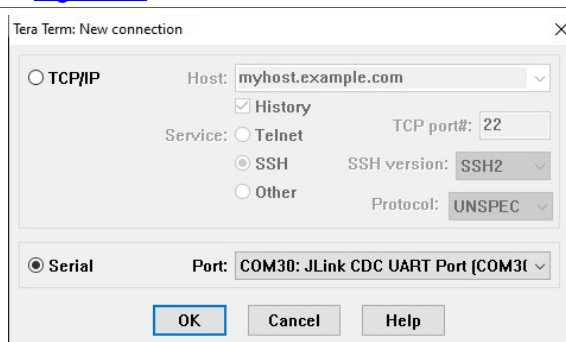

Figure 25. Setting up a new Tera Term connection for Wireless UART application
2. Open Tera Term (or any other Serial Communication software) and choose **Serial**. Then choose the port of your board and click **OK**. See Figure 25.